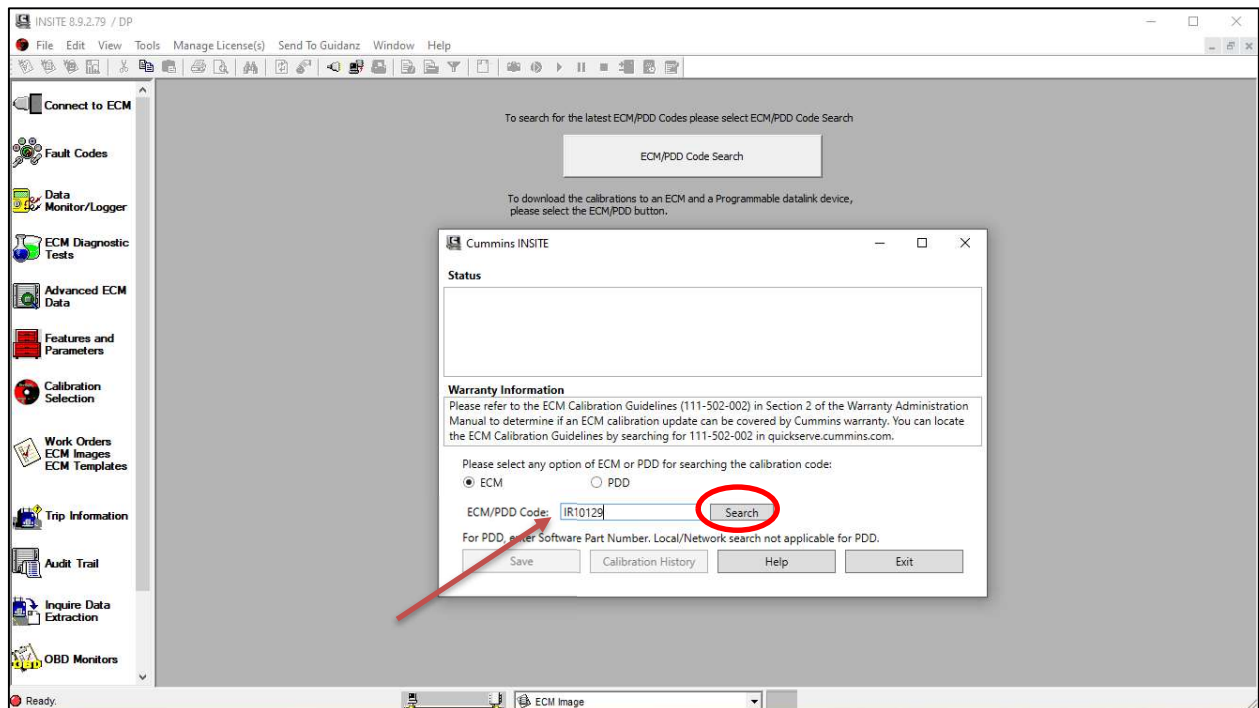

Figure 20
29. Enter the original production ECM code and select search. See figure 20.